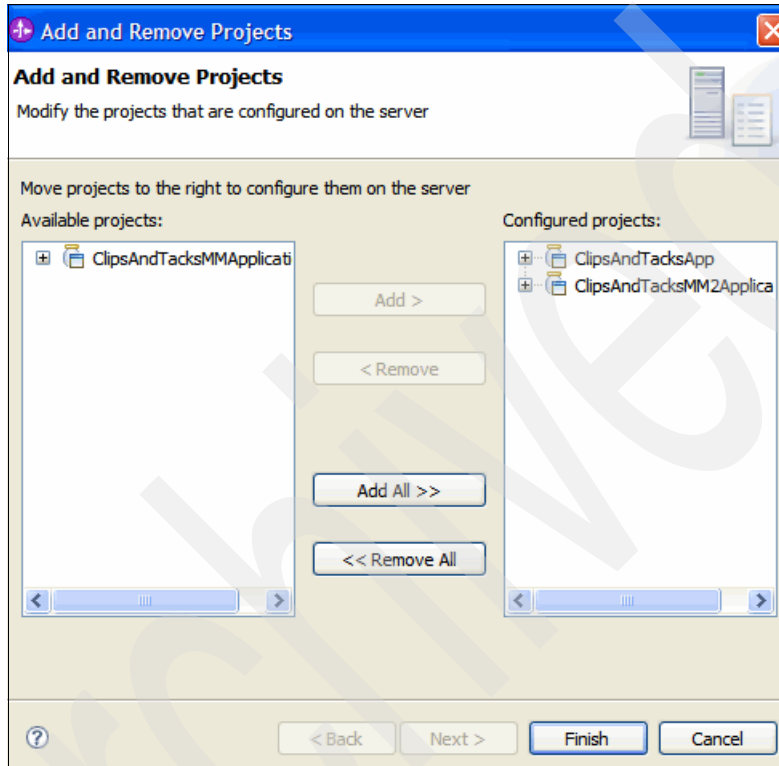

Figure 6-112 Adding the Monitor J2EE project to the server
- b. Add **ClipsAndTacksApp** and **ClipsAndTacksMM2Application** to the server. Click **Finish** (Figure 6-112 on page 339).